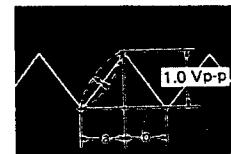

Fig. 4-12
- Adjust R104 (V-TRI-PHASE) so that a equals b as shown in Fig. 4-12.